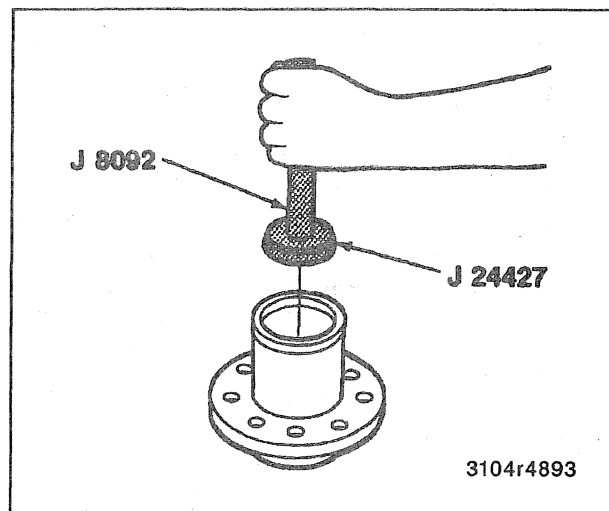

Figure 32—Installing Inner Bearing Cup
- ### 3. Inner bearing cup using J 8092 and J 24427 (figure 32).